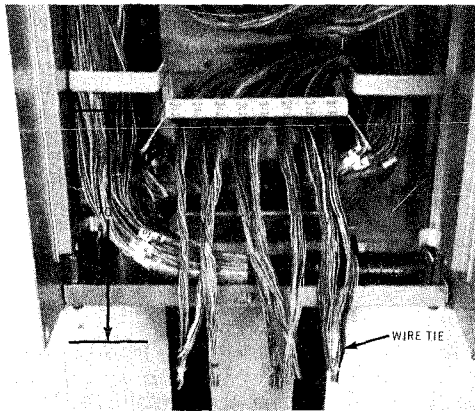

Fig. 6
7.07 Cut each binder group to a length of 12 to 15 inches below the bottom of the bracket to preserve the pair twist. Install a single wire tie near the end of the binder group. (See Fig. 6).